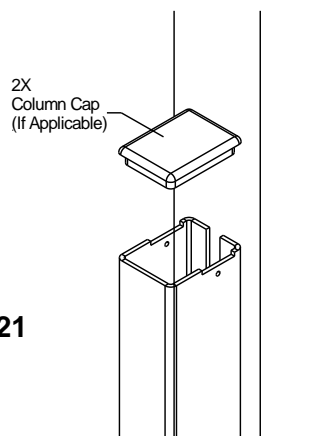

Fig. 21
2. Re-install Column Caps (if applicable): Columns caps should be installed when the columns have cooled from welding, **Fig. 21**.